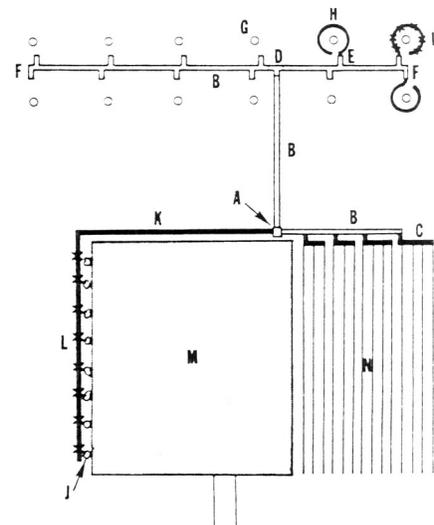
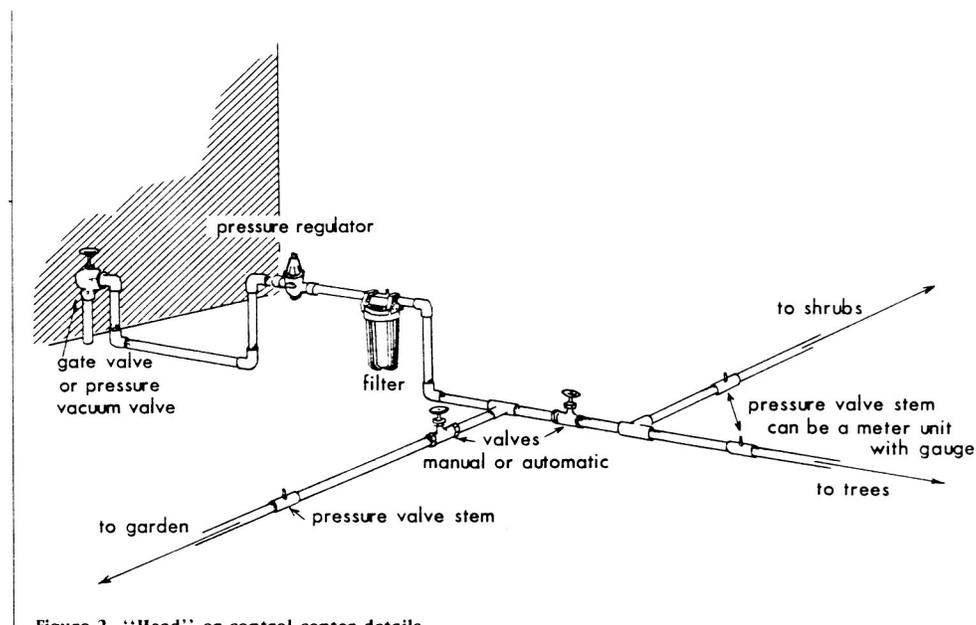

Figure 1. Example layout of a home drip system.
Figure 2. "Head" or control center details.
A drip system has three parts (fig. 1), the head (A), which includes controls and a filter; (B) a transmission system of plastic pipe or hose; and (1) the emitters.
The head (fig. 2), includes an on-off valve and a regulating device to reduce the pressure from 40 to 80 pounds per square inch (psi) to the low pressure of 10 to 20 psi for drip systems. If both a vegetable garden and trees or shrubs are to be watered, separate valves will be needed because different flow rates, pressures, and watering times are required. The head must also contain a filter to screen out particles that might clog emitters, it should also have one or more pressure-measuring devices to help in adjusting the pressure regulator.
First, make a diagram of your property to scale. Figure 1 is an example. Draw in the house and garage (M), driveway, sidewalks, and any other permanent features. Locate all trees (G) and plants (U) that you intend to drip irrigate and the position of your present or planned garden (N). Locate the source of water you will use (A).
IDENTIFICATION OF COMPONENTS IN FIGURE 1
In figure 1, there are 12 trees (G) with six 1 gallon per hour (1 gph) emitters per tree at 15 psi. The flow needed at D is 1.2 gpm because $12 \text{ trees} \times 6 \text{ gph} \div 60 \text{ min/hr} = 1.2 \text{ gpm}$. The table shows that a 1/2-inch main line (B) will be sufficient.
Techniques for installing the relatively simple system in figure 1 are described in this leaflet. Professional help is recommended for more complicated situations. Check your local city codes for requirements for anti-backflow devices and their locations.
The lot in figure 1 is 90 by 120 feet, with a 40 by 50 foot house (M). It has 12 fruit trees (G) in back, 8 shrubs (J) on the left side of the house, and a 30 by 50 foot garden space on the right (N). Details of the head (A) are shown in figure 2. The main line (B) will be 1/2-inch PVC, buried about 8 inches. PVC tees (E) and elbows (F) have internal barbs and provide places to connect the PE feeder hose (H) on which individual emitters (D) are placed. Feeder hoses of 1/2-inch PE (H, K, and C) are laid on the ground or buried 2 or 3 inches. These hoses are closed at the ends by folding back 4 inches of hose and slipping a length of PVC pipe over the fold like a napkin ring. This allows quick opening to flush the system once a month.